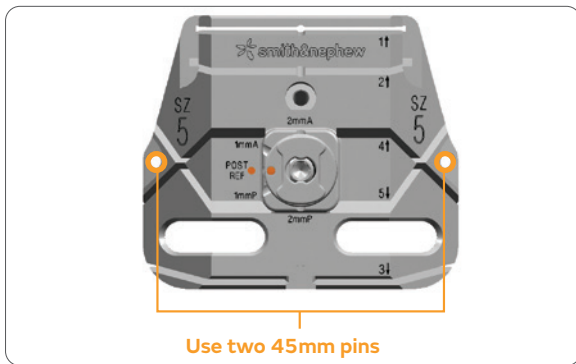

Figure 30
3. Use two headed 45mm pins through the medial and lateral fixation holes on the cutting block (**Figure 30**).